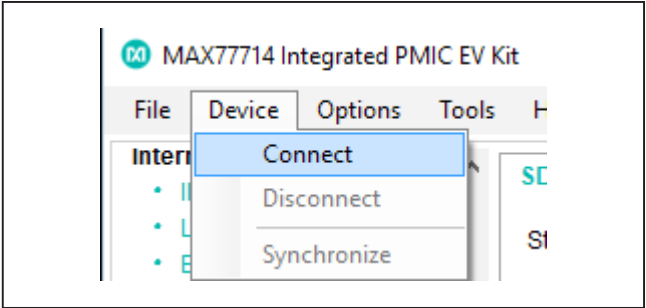
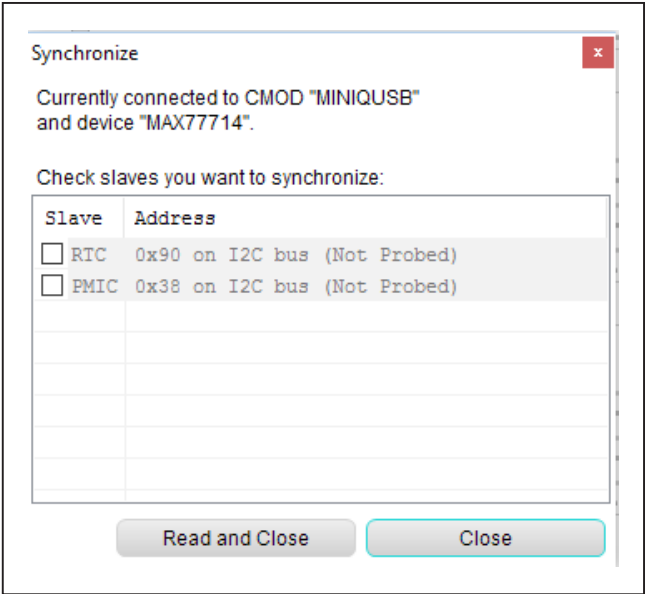

Figure 2: Connecting to the EV Kit
Figure 3: Connecting to the MAX77714
- 7) Open the GUI, and in the upper left corner, select **De-****vice** and then select **Connect** as shown in Figure 2. Once connected, a pop-up window appears as shown in Figure 3. Press the **Read and Close** button.